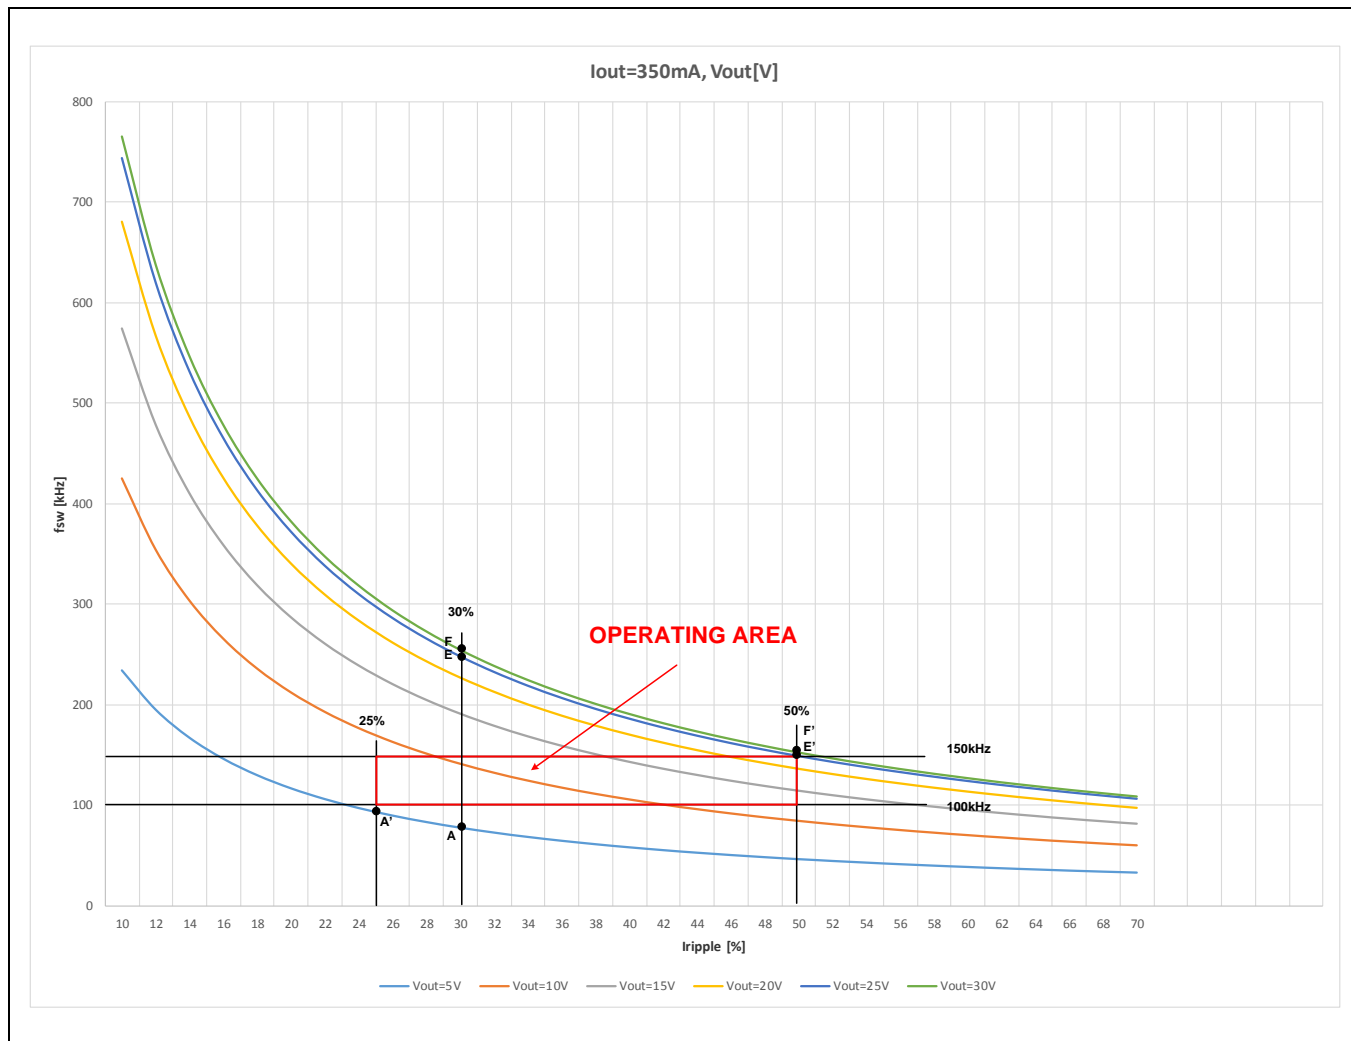

Figure 17. FRC Algorithm Example – Operating Point is outside the Predefined Borders
- 3) If the achieved operating frequency is above the maximum allowed switching frequency f_{sw_max} (e.g. $V_{out} = 25 \text{ V}$ – dark blue curve, point E; $V_{out} = 30 \text{ V}$ – green curve, point F), the firmware will start to slowly increase the ripple in order to lower the operating frequency (the slope of this increasing ripple depends on the buck inductance L_{EXT} , see equation (12) on page 17). It will continue increasing the ripple until it hits its maximum allowed value I_{ripple_max} . The switching frequency will be determined by I_{ripple_max} and could be outside the predefined borders (corrected points E' and F', see Figure 17).
- 4) If the achieved operating frequency is below the minimum allowed switching frequency f_{sw_min} (e.g. $V_{out} = 5 \text{ V}$ – blue curve, point A), the firmware will start to slowly decrease the ripple in order to raise the operating frequency (the slope of this decreasing ripple depends on the buck inductance L_{EXT} , see equation (12) on page 17). It will continue decreasing the ripple until the frequency reaches the low threshold value defined by the parameter f_{sw_min} , or if the ripple hits the minimum allowed value defined by the parameter I_{ripple_min} . In this case, the switching frequency could be outside the predefined borders (corrected point A', see Figure 17).